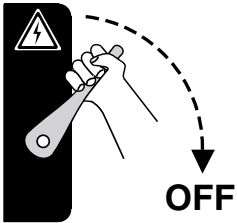

Figure 34. Operator feeding workpiece in correct body position and out of the way of potential kickback.
8. Start the conveyor, stand to the side as shown in **Figure 34**, and feed the workpiece into the sander.